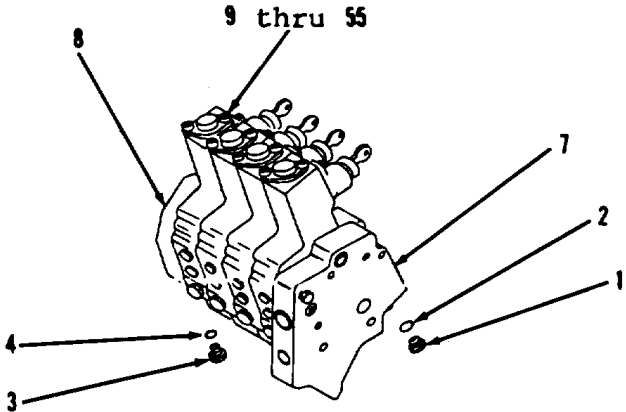

Figure 10-77.
1. Remove plug (1) and preformed packing (2) from manifold (7, Figure 10-77). Discard preformed packing (2).
2. Remove plug (3) and preformed packing (4) from manifold (8). Discard preformed packing (4).